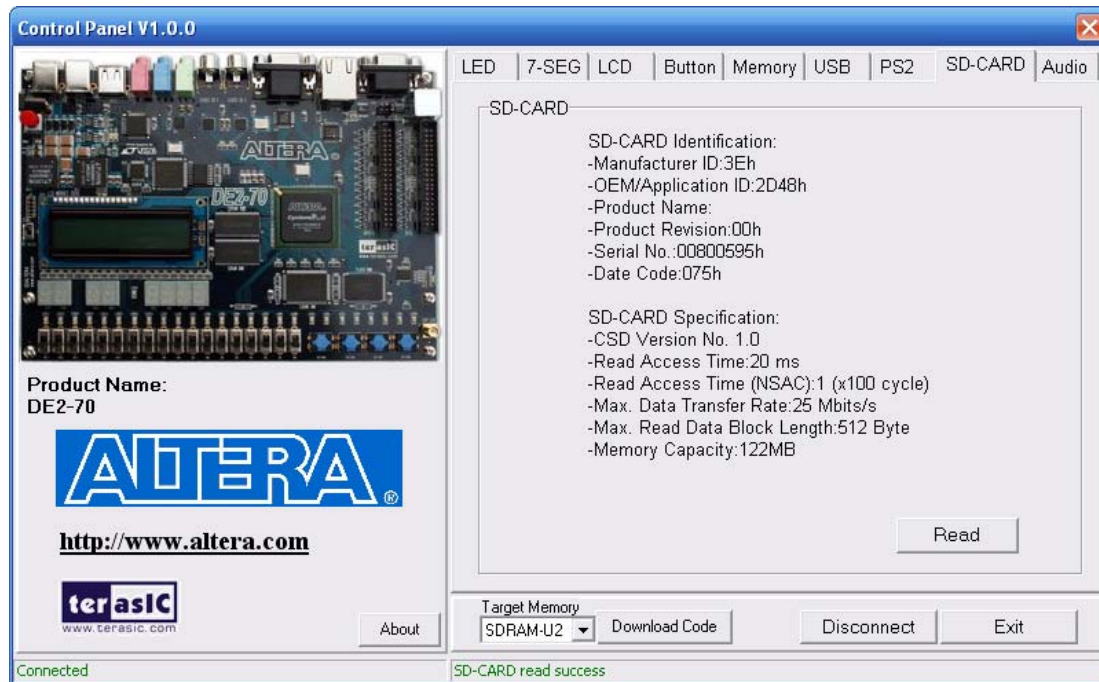

Figure 3.10. Reading the SD card Identification and Specification.
1. Choosing the **SD-CARD** tab leads to the window in Figure 3.10. First,